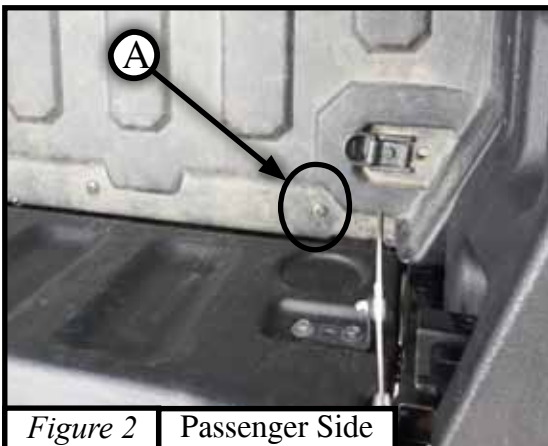

Figure 2 Passenger Side
- Remove phillips head screw (A) and drill though with a 9/32" drill bit (B) as shown in *Figure 2&3*.